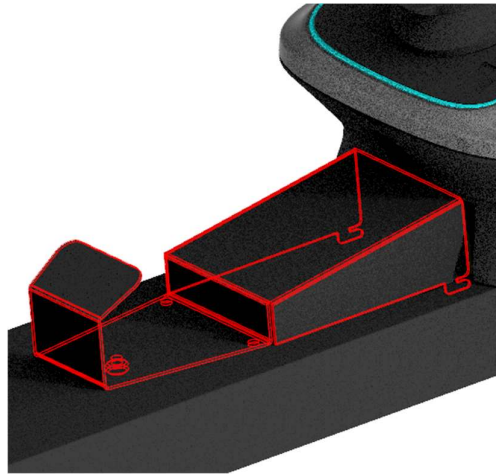

Figure A-21 Thread hook and thread guard installation
4. Insert the hanger hook and guard cover into the mounting position and push them up, and then lock them from the front with two M4*12 pattern composite screws (Torque: 1.4~1.6 N.M) with column core head, as shown in Figure A-21.